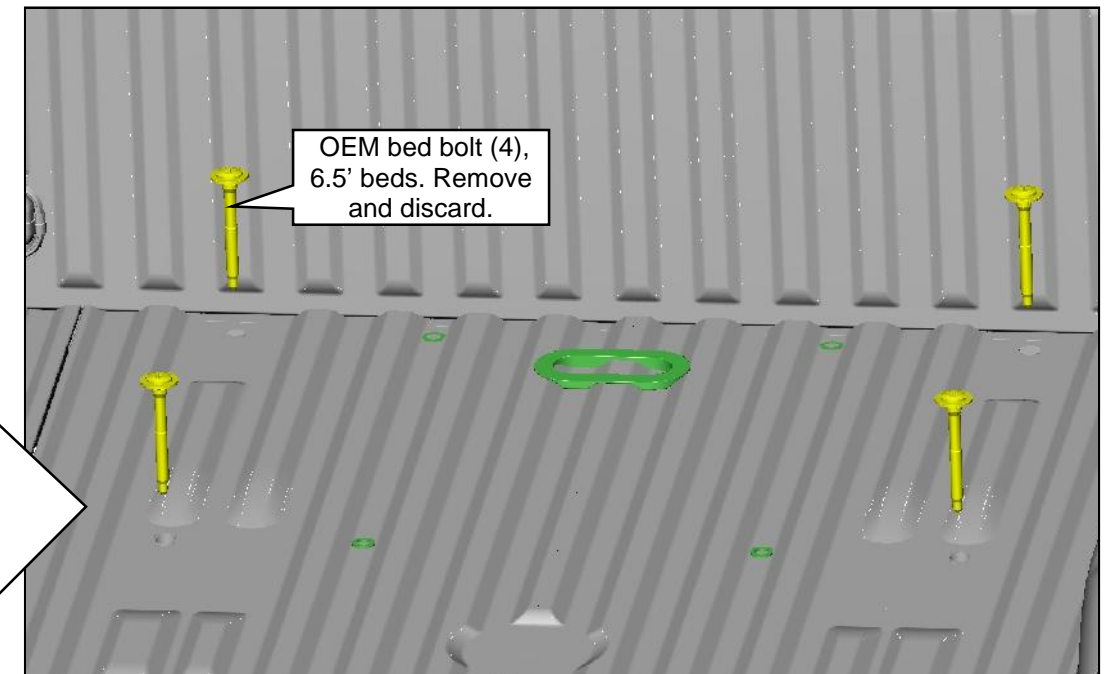

Figure 15.4 — 6.5' Bed
2. With 6.5' beds, if not already done, remove the four bed bolts closest to the front of the bed. **Figure 15.4.** Discard the bolts, however, use one of the bolts to tap or cut threads into the four new U-nuts (W714263).